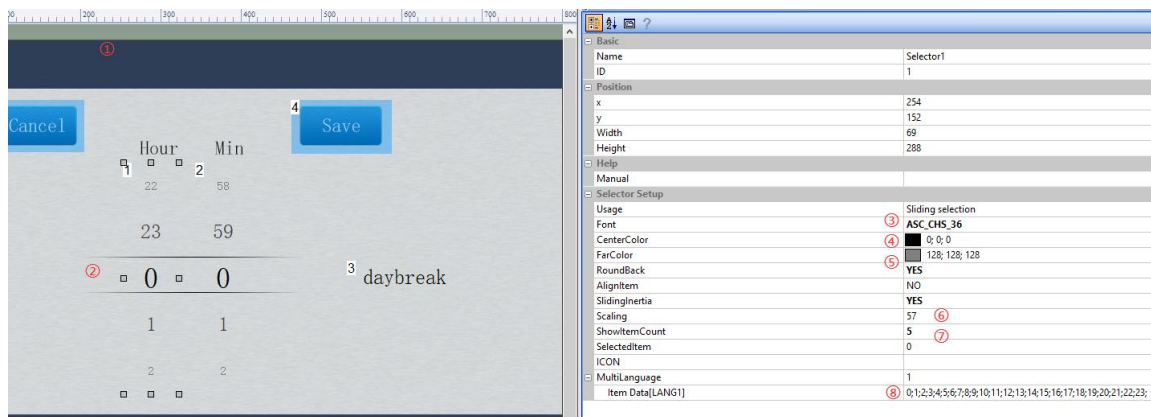

Figure 2-31 Slide Selection Control Property Settings
1. As shown in Fig. 2-31, click the sliding selection control at ① of the software menu bar, and place a sliding selection control in Fig. ②.
2. Set the font size to ASCII16*32 at the Properties window (3), which is the font size displayed when selected.